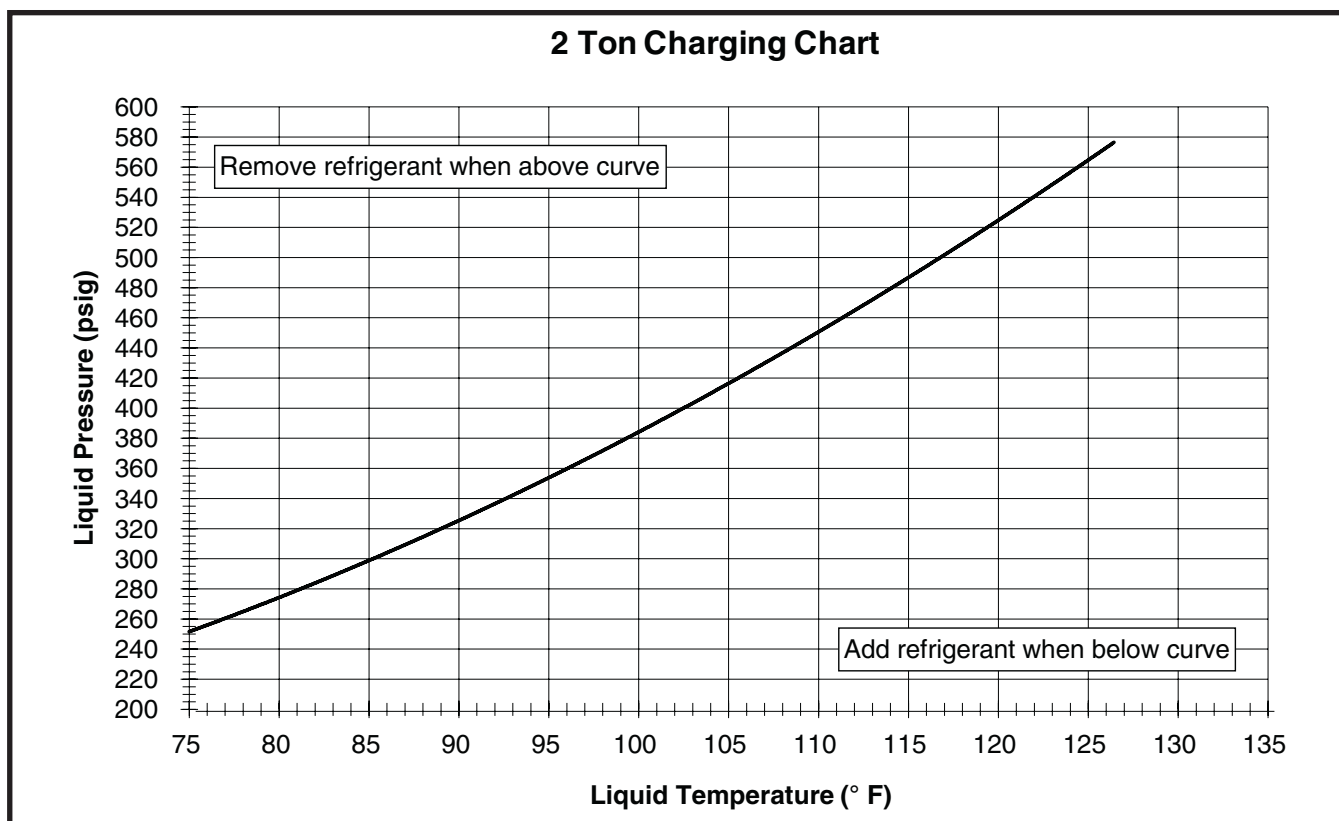
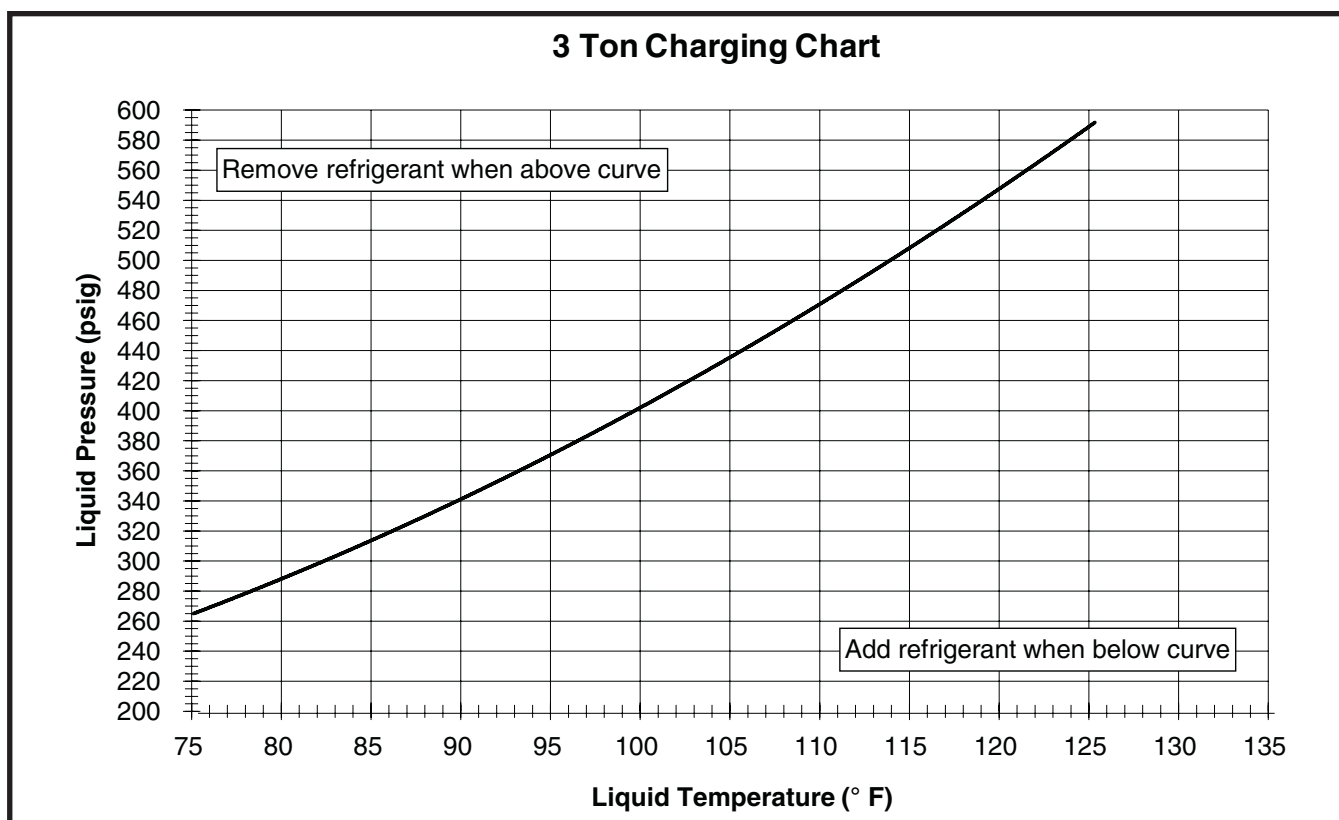
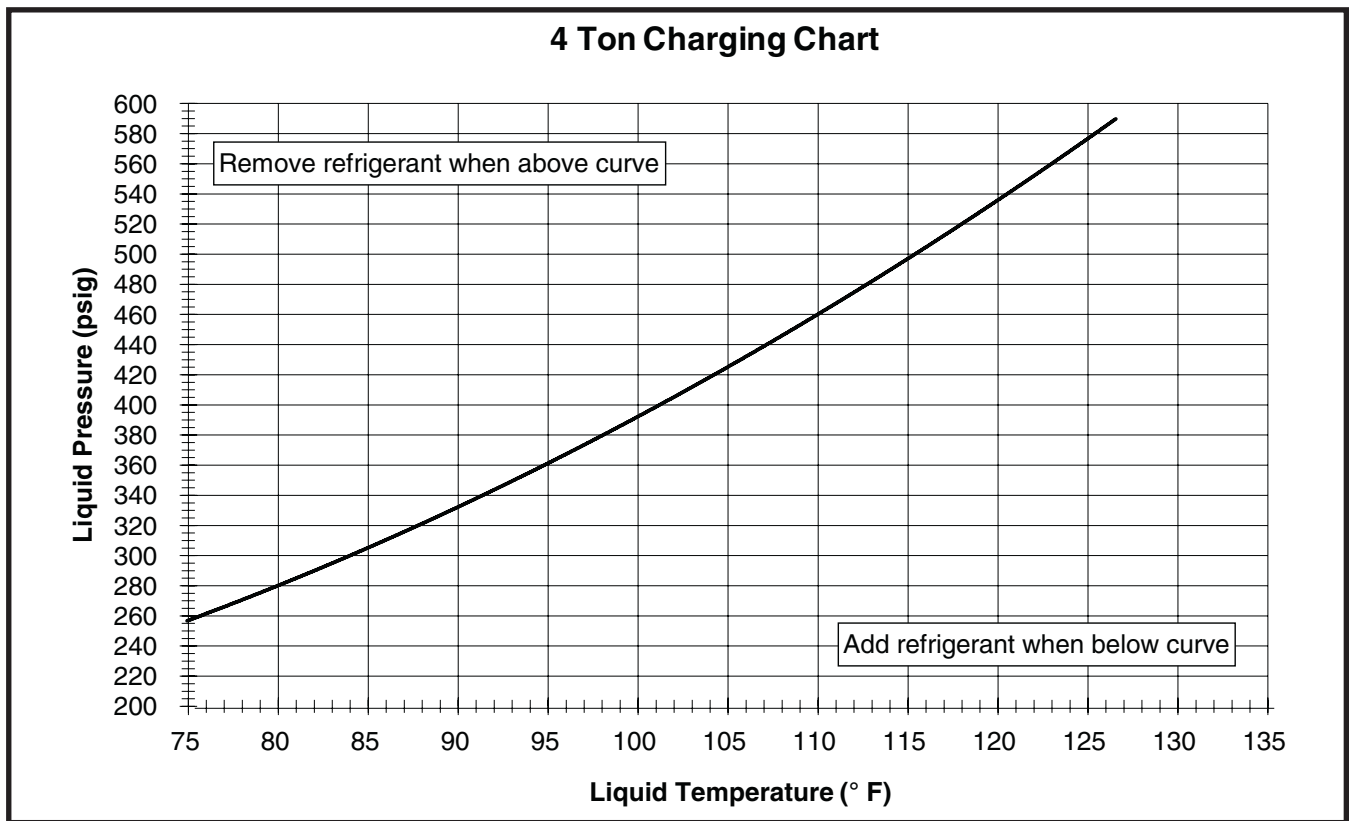
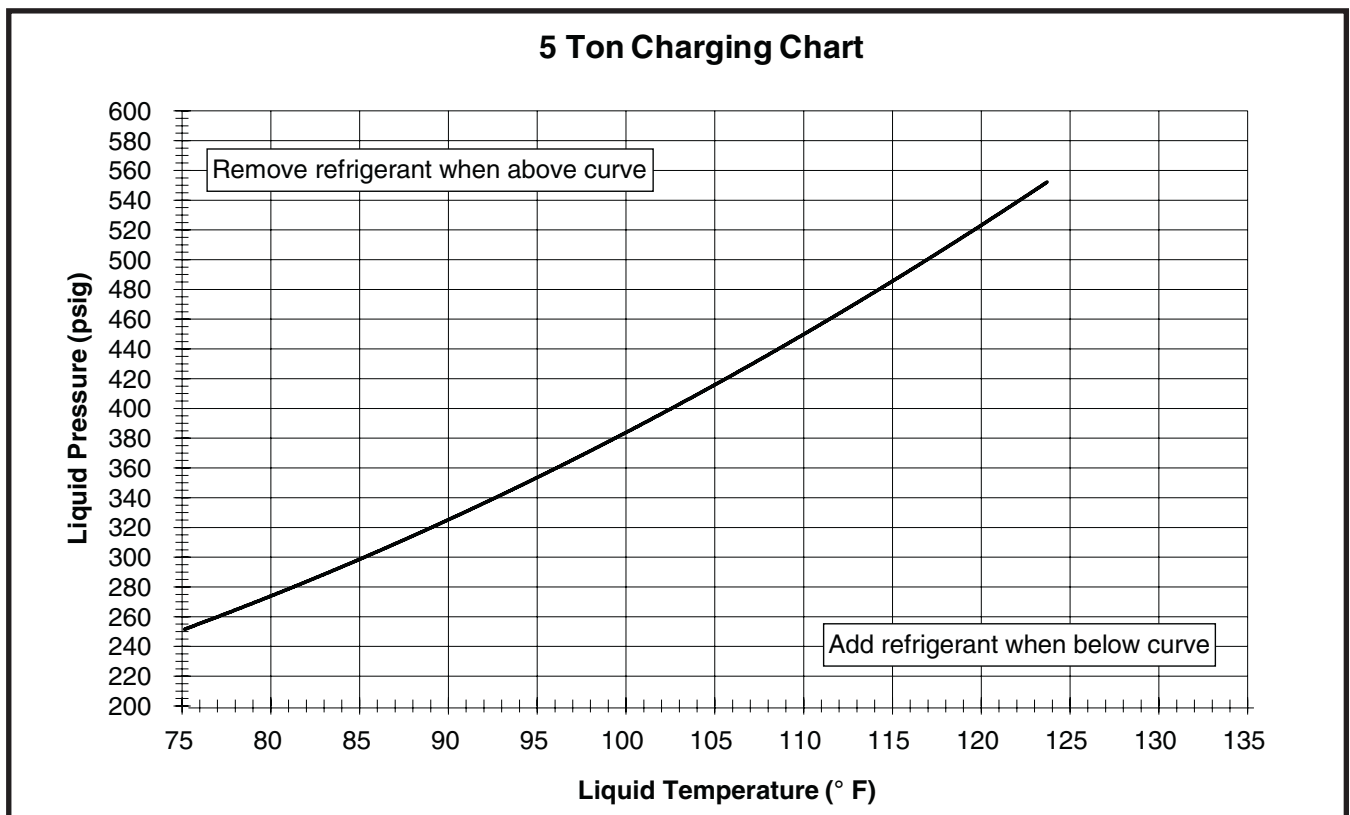

Figure 6. Charging Chart for 2 ton Units
Figure 7. Charging Chart for 3 ton Units
Figure 8. Charging Chart for 4 ton Units
Figure 9. Charging Chart for 5 ton Units
3. For the temperature measured, determine the required liquid refrigerant pressure from your units label or charging charts: Figure 6 \(page 10\), Figure 7 \(page 10\), Figure 8 \(page 11\), and Figure 9 \(page 11\).